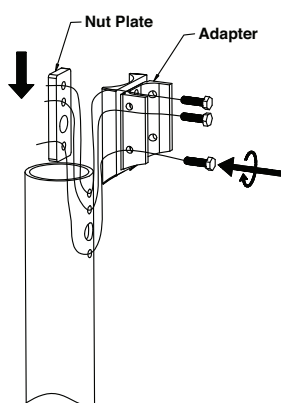

FIG. 2
- Tighten the nut plate and adapter on the pole (see **FIG. 2**).